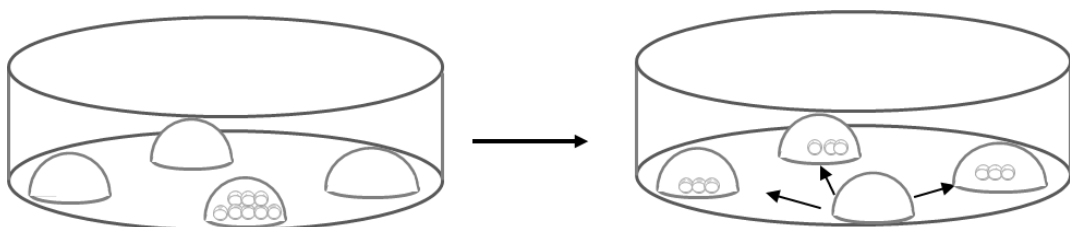

Figure 5.
2. Once the embryos have settled, split them equally between the remaining 45 μ l drops (Figure 5).